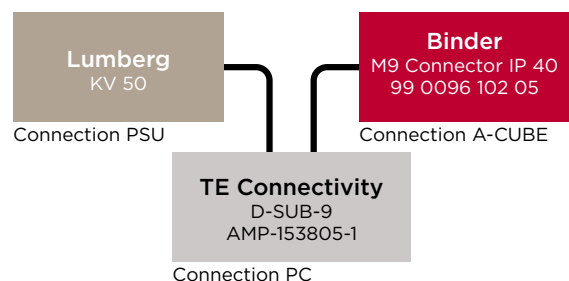

Fig. 2: Adapter cable digital
- / Digital adapter cable (Fig. 2)